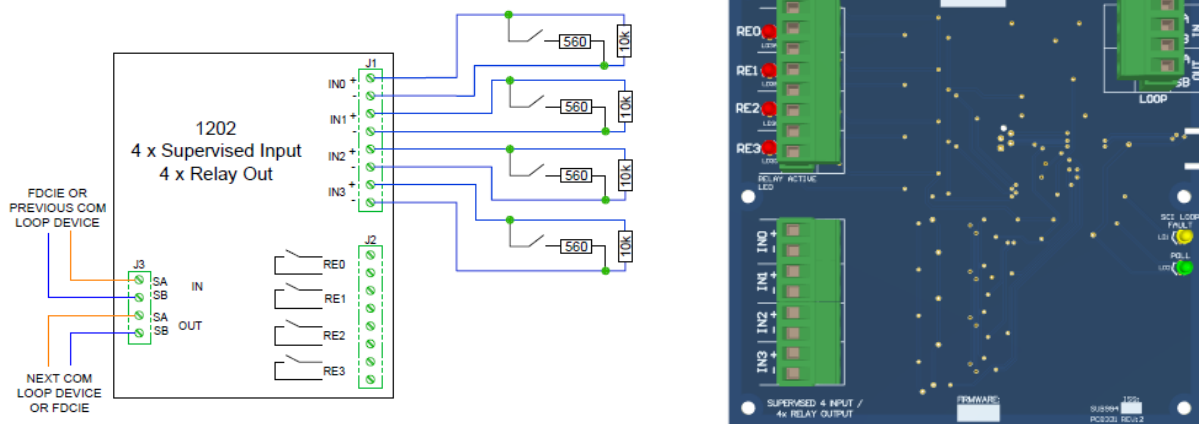
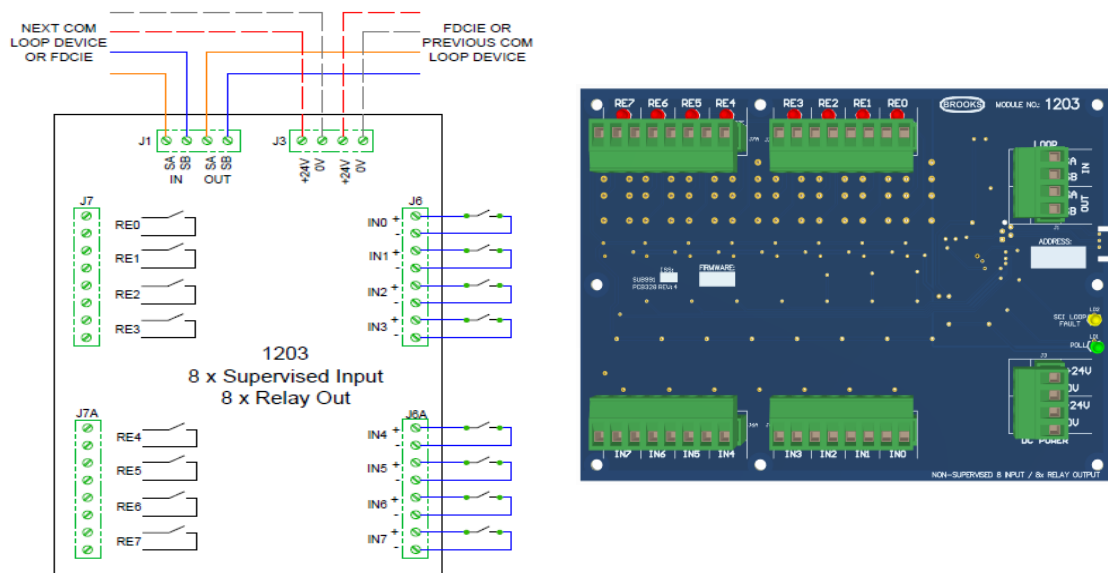

Figure 17: 4/4 1202 I/O SUB994
Figure 18: 8/8 1203 I/O SUB991.
The module is a programmable single supervised input / single relay output as shown in Figure 17 below. Used where a single device needs to be triggered (output) and a return signal is required to report that the action has been carried out (input), e.g. a sprinkler flow switch.
1202 or SUB994 comprises four programmable supervised inputs and four programmable relay outputs. The functions and programming of each input or output is identical to 1200 I/O module. Connection is similar to 1200 module shown in Figure 17 above, the PCB and connection diagram are shown in Figure 18 below. The supervised input requires 10kΩ end of line resistor.
1203 – SUB991 I/O unit is designed to provide 8 x programmable non-supervised inputs and 8 x programmable relay outputs, no end of line resistor required. The relays are non-latching relays which requires external 24VDC supply. Connection is similar to 1200 shown in Figure 18 above, however inputs are not supervised. The physical SUB991 board is shown in Figure 19 below. 1203 requires two consecutive addresses on the COM loop set in "Advanced Mode (3)".